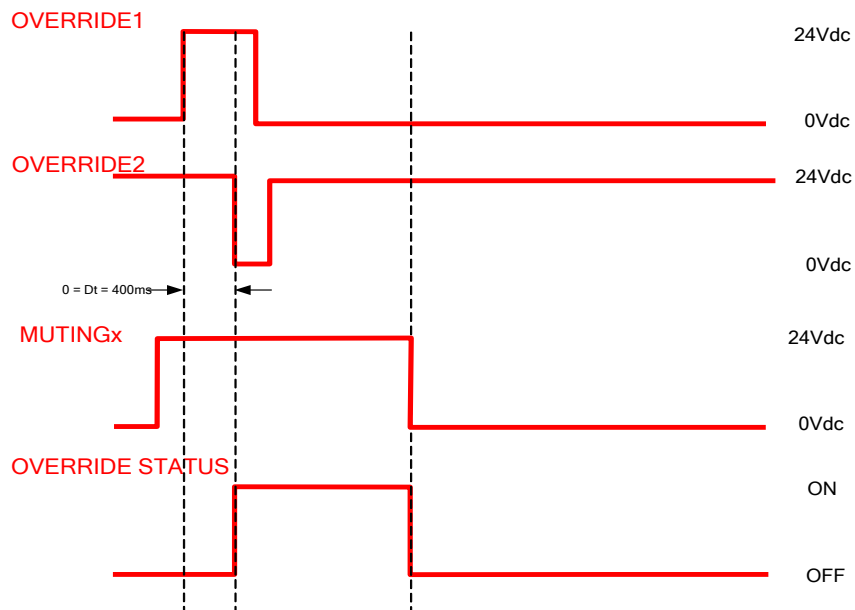
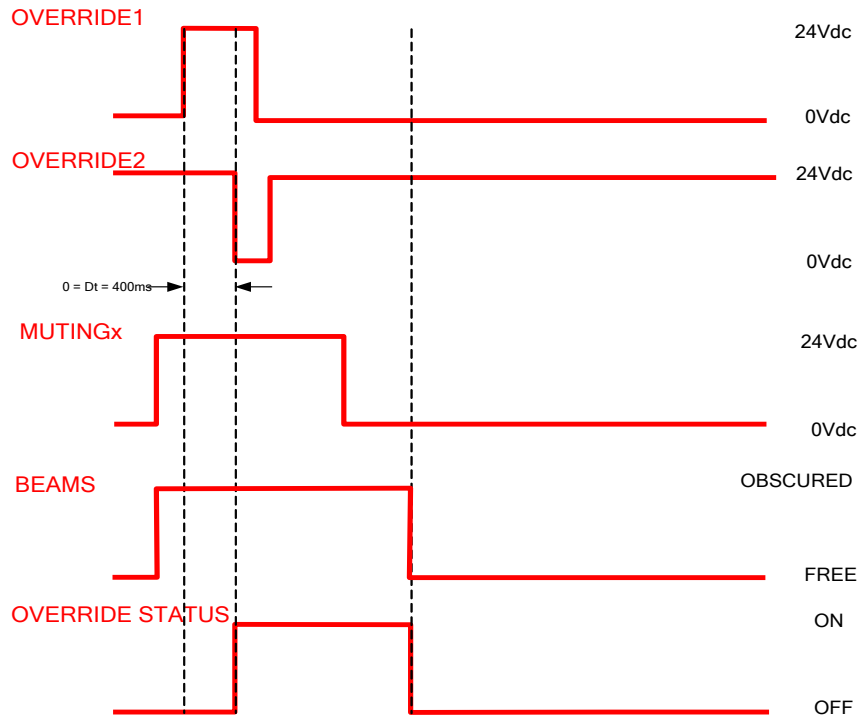

Figure 43
Figure 44
- the muting sensors are free (T-Muting, Figure 43), or the muting sensor are deactivated and the beams of the light curtain are free (L-Muting, Figure 44).
The coding function allows the ESPE to remain in normal operation also when an interference condition with another ESPE occurs, and in particular when the TX of the first light curtain radiates in the direction of the RX of the second light curtain (see Figure 43). Obviously, the two light curtains must be configured with two different codes (see also 3.2.3 – “Distance between homologous devices”).